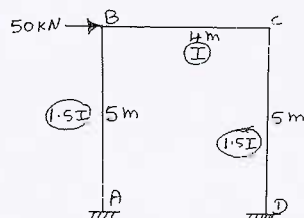

Fig.Q4 (16 Marks)
- 4 Analyze the portal frame as shown in Fig.Q4 by moment distribution method and also determine its bending moment diagram.